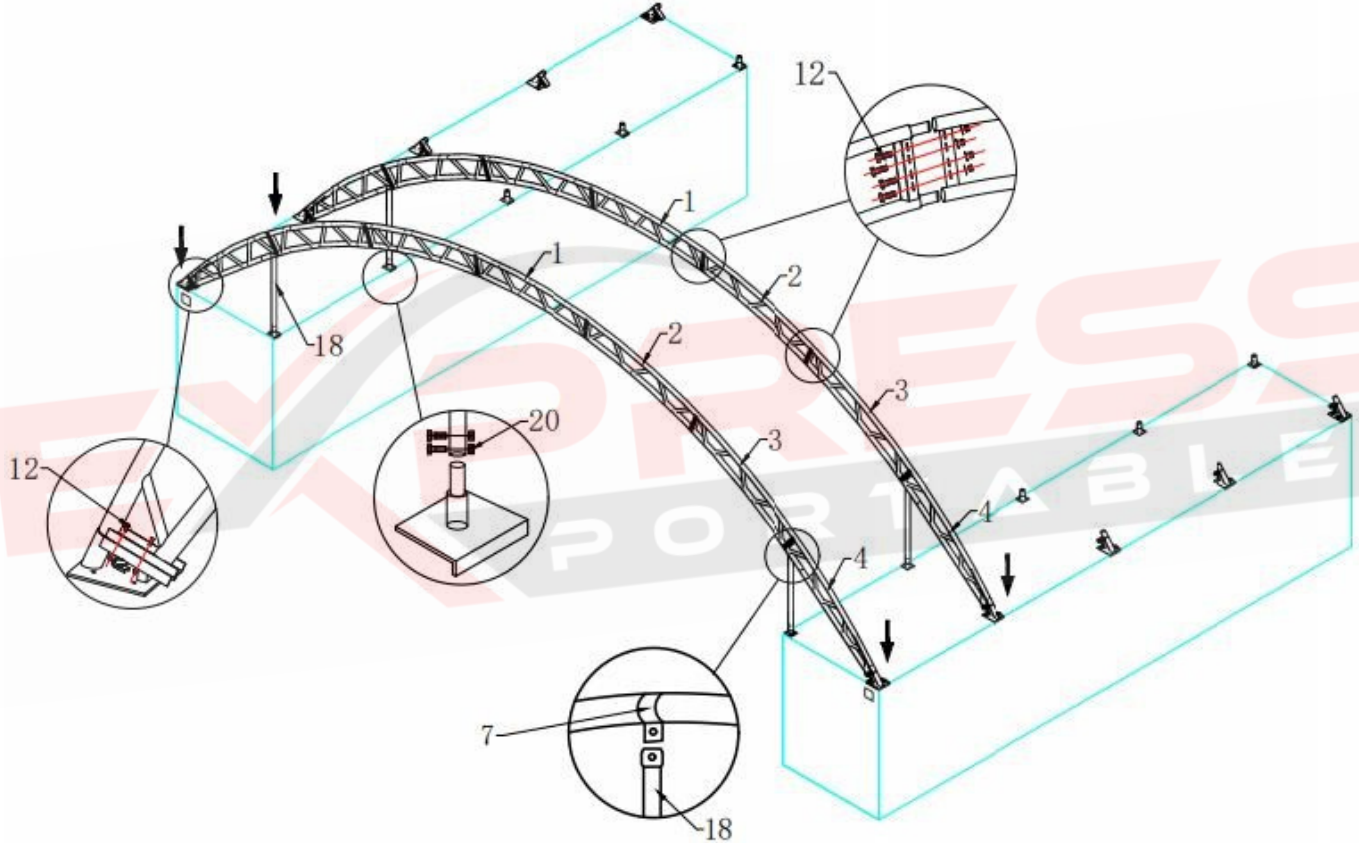

Figure 4
3.2As Figure 4 shows, connect standing leg (NO.18) with clip (NO.7) and Bolt (NO.20).